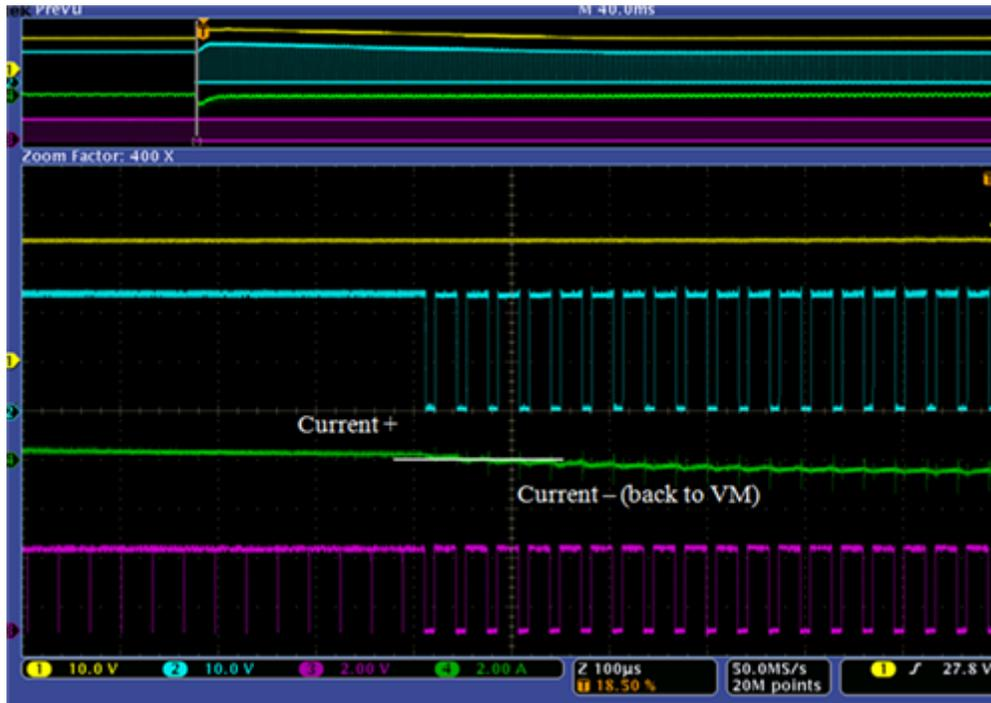
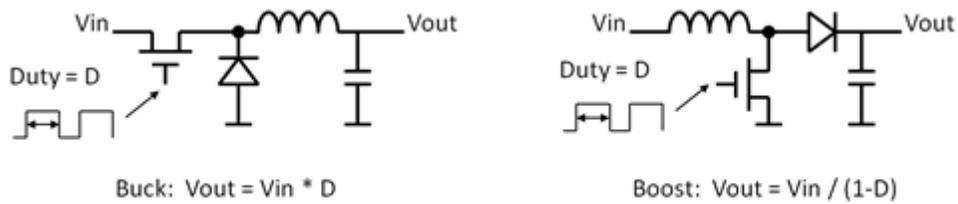
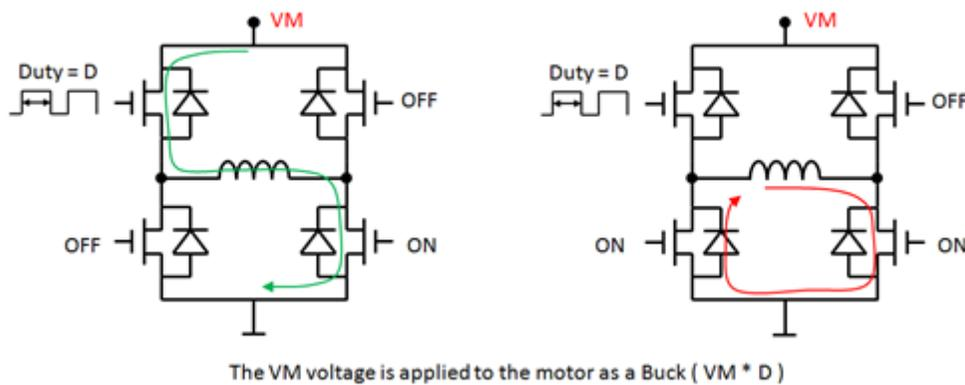
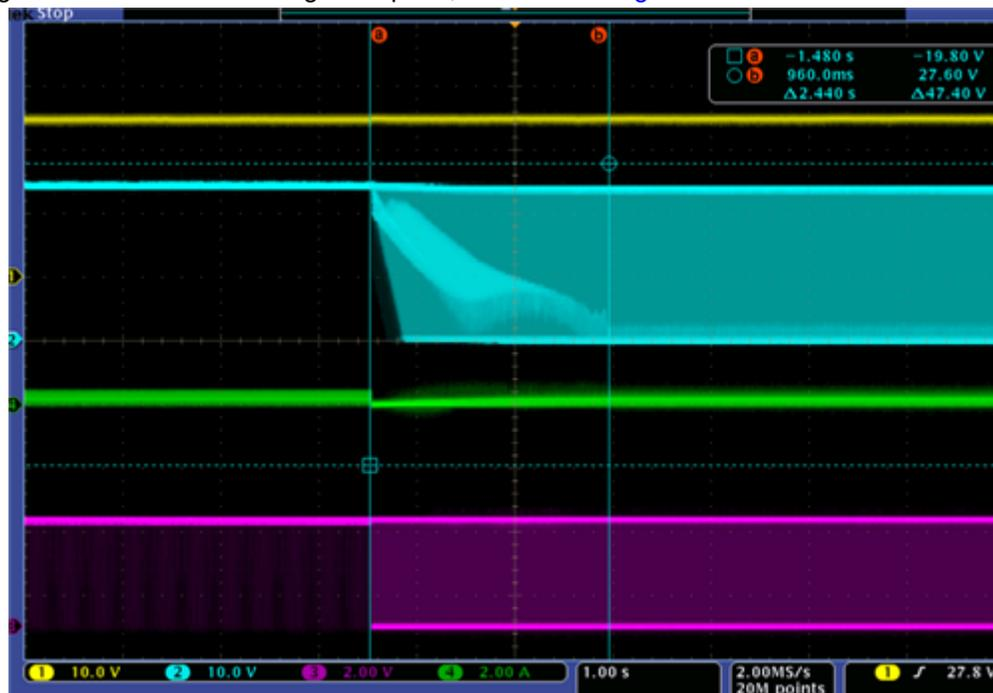

Figure 2. Buck and Boost Circuits
Figure 3. Buck Topology
Figure 4. Boost Topology
Figure 9. No VM Pumping with Fast Decay
We need some DC/DC power management background here to understand the pumping mechanism. So, let's look at how a typical buck-boost circuit works; see Figure 2. What's interesting is that during PWM, driving a motor with an H bridge, you have the buck and boost process together. As shown in Figure 3, during the PWM's driving time, it's a typical buck circuit. In Figure 4, the back electromotive force (EMF) is acting as the boost source during the PWM's off time.
($V_{bst} = V_{BEMF} / D$; Note this "D" means 1-D in Fig 3)
- Use fast decay. With DRV8840 in fast decay mode, the boost topology shown in Figure 4 is no longer present. The back EMF will always be less than the VM voltage, and VM pumping will not occur at all. It will take a longer time to achieve the targeted speed, as shown in Figure 9.